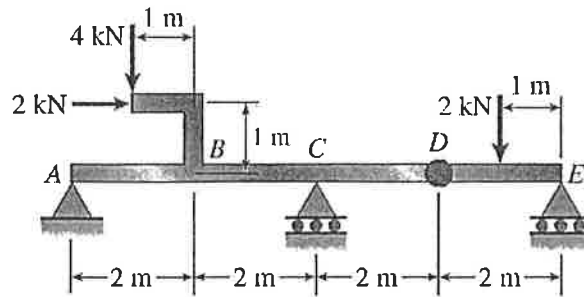

Figure 1
1. The compound beam $ABCDE$ shown in the Figure 1 consists of two beams (AD and DE) joined by a hinged connection at D . The hinge can transmit a shear force but not a bending moment. The loads on the beam consist of a 4-kN force and a 2-kN force at the end of a bracket attached at point B and a 2-kN force at the midpoint of beam DE . Find reactions at supports A , C and E . (20%)